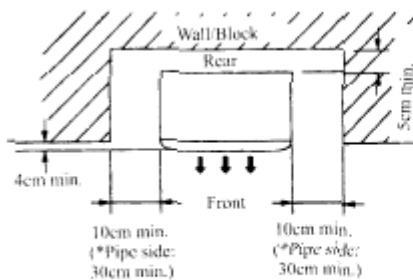

Fig. 11
- Leave enough space around the unit for air going in/out and maintenance. (See Fig. 11)